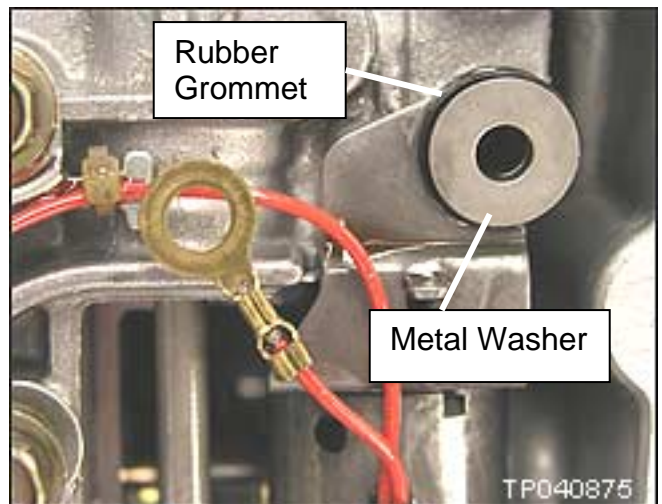

Figure 3
7. Apply heat and solder to the terminal as shown in Figure 3.